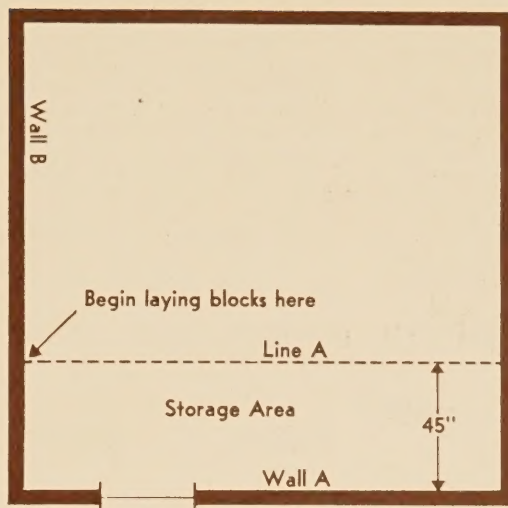

FIG. 1
Installation should begin on the side of the room containing the main entrance-way (see Fig. 1).
Step 1: (See Fig. 1) From Wall A measure off 45" at two different points. Stretch a chalked line from wall to wall through these points, parallel to Wall A. Snap this line (Line A) onto the subfloor, dividing the room into two unequal areas. Blocks will be laid first in the larger area; use the space between Wall A and Line A as a working and materials storage area during early installation.